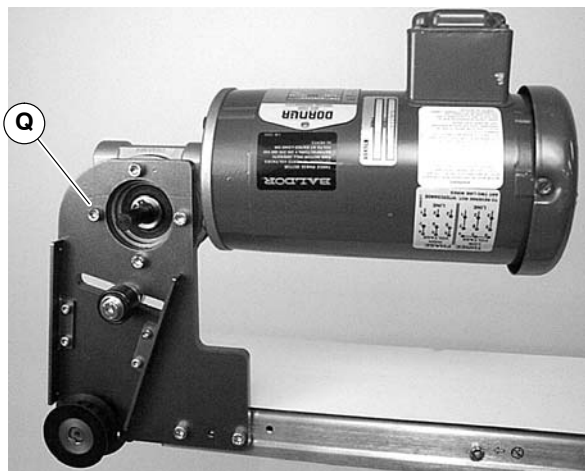

Figure 21
4. Remove four (4) gear reducer mounting screws (Q of Figure 21). Remove gearmotor.
**12.** Install gearmotor to mounting bracket and tighten screws (Q of Figure 21) to 103 in-lb (12 N-m).